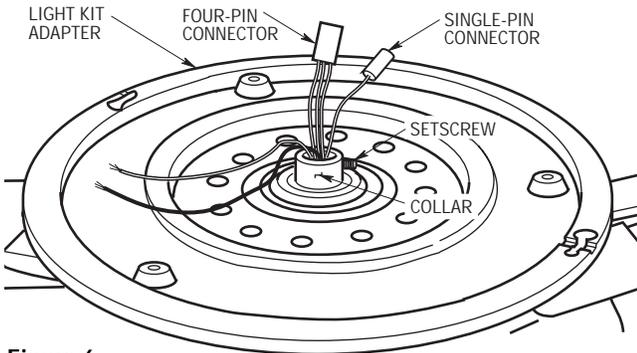

Figure 6
- 13. Using the 3/16" setscrew wrench (supplied), loosen the setscrew in the collar of the light kit adapter assembly (Figure 6).
- 15. Screw the light kit adapter tightly onto the motor shaft (Figure 6), then tighten the setscrew in the collar.